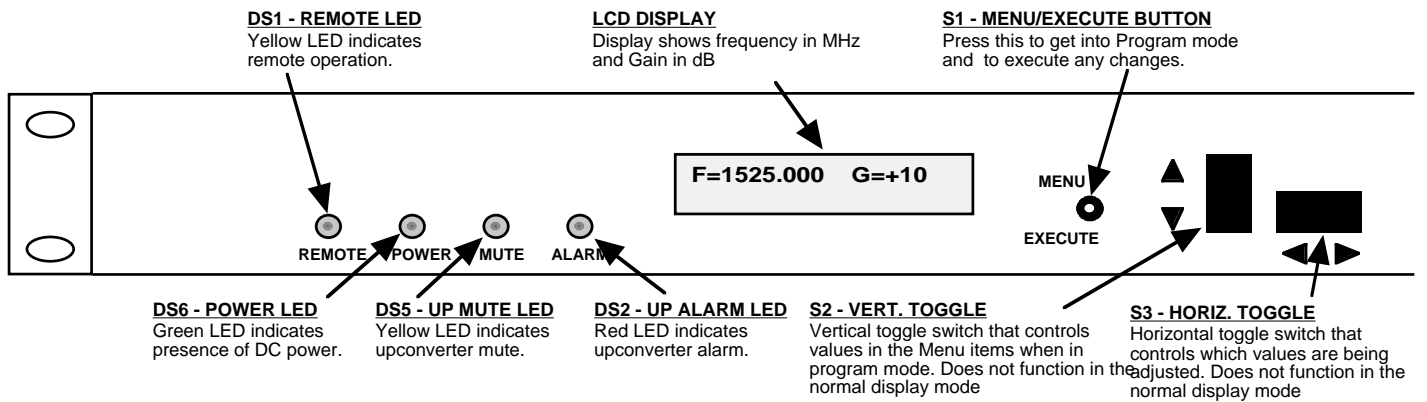

FIGURE 2.2 2015-14 Front Panel Controls and Indicators
7. Be sure DS6 (green, DC Power) is on and DS2 (red, Alarm) is off (Figure 2.2).
Alarm indications appear on the LEDs (see figure 2.2).